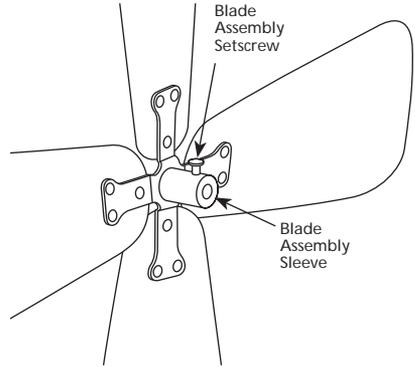

FIGURE 8
23. Loosen the Blade Assembly Setscrew so that it does not protrude into the inside of the Blade Assembly Sleeve. See Figure 8.